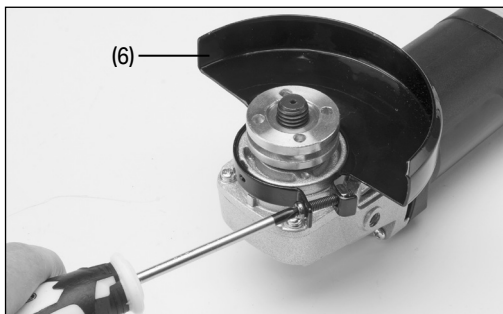

Fig. 2
6.2 Fitting the Guard (Fig. 2)